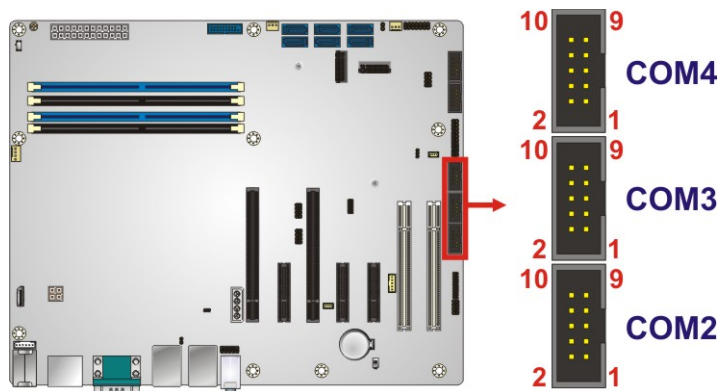

Figure 3-25: RS-232 Serial Port Connector Location
- CN Location:** See **Figure 3-25**